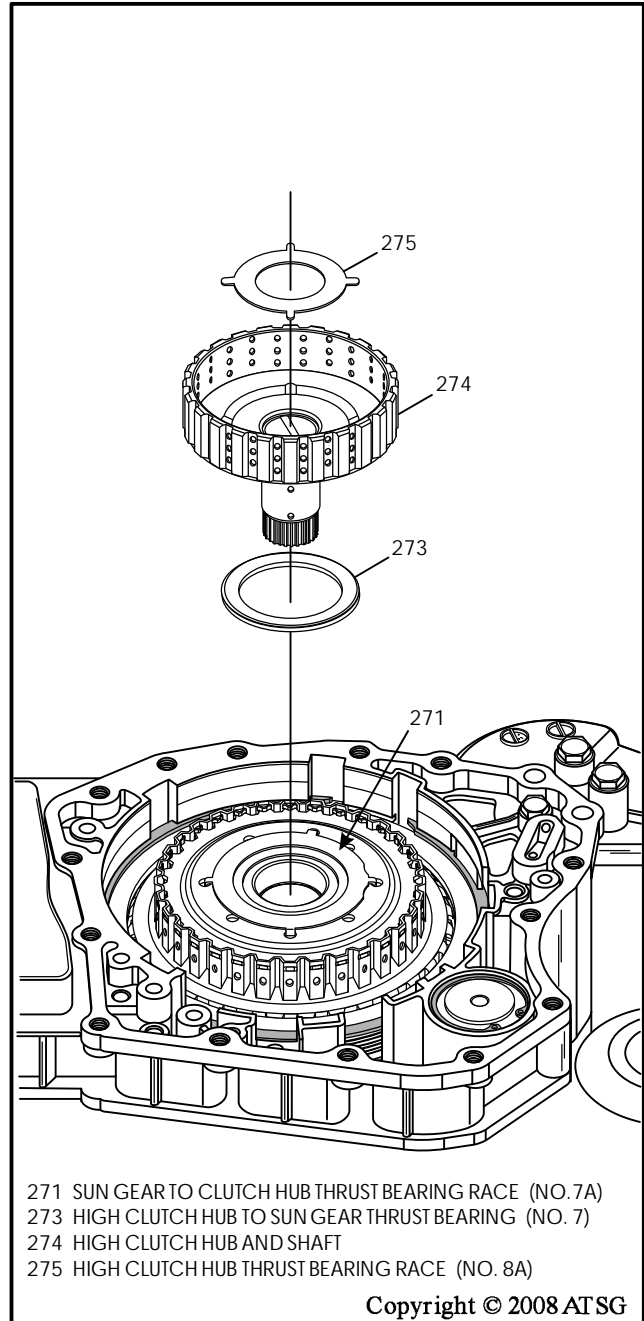

Figure 203
31. Ensure that number 8A thrust bearing race and number 7 thrust bearing are still in place on the high clutch hub, as shown in Figure 203.
32. Install the high clutch hub and shaft assembly by rotating into position (See Figure 203).